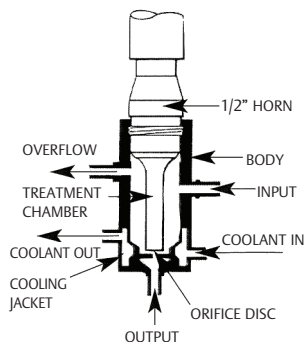

Figure 1
3. Clamp the continuous flow attachment to a suitable stand and use appropriate input/output connectors (with 0.25" ID [6.35 mm] hose), as shown in Figures 1, 2, and 3.